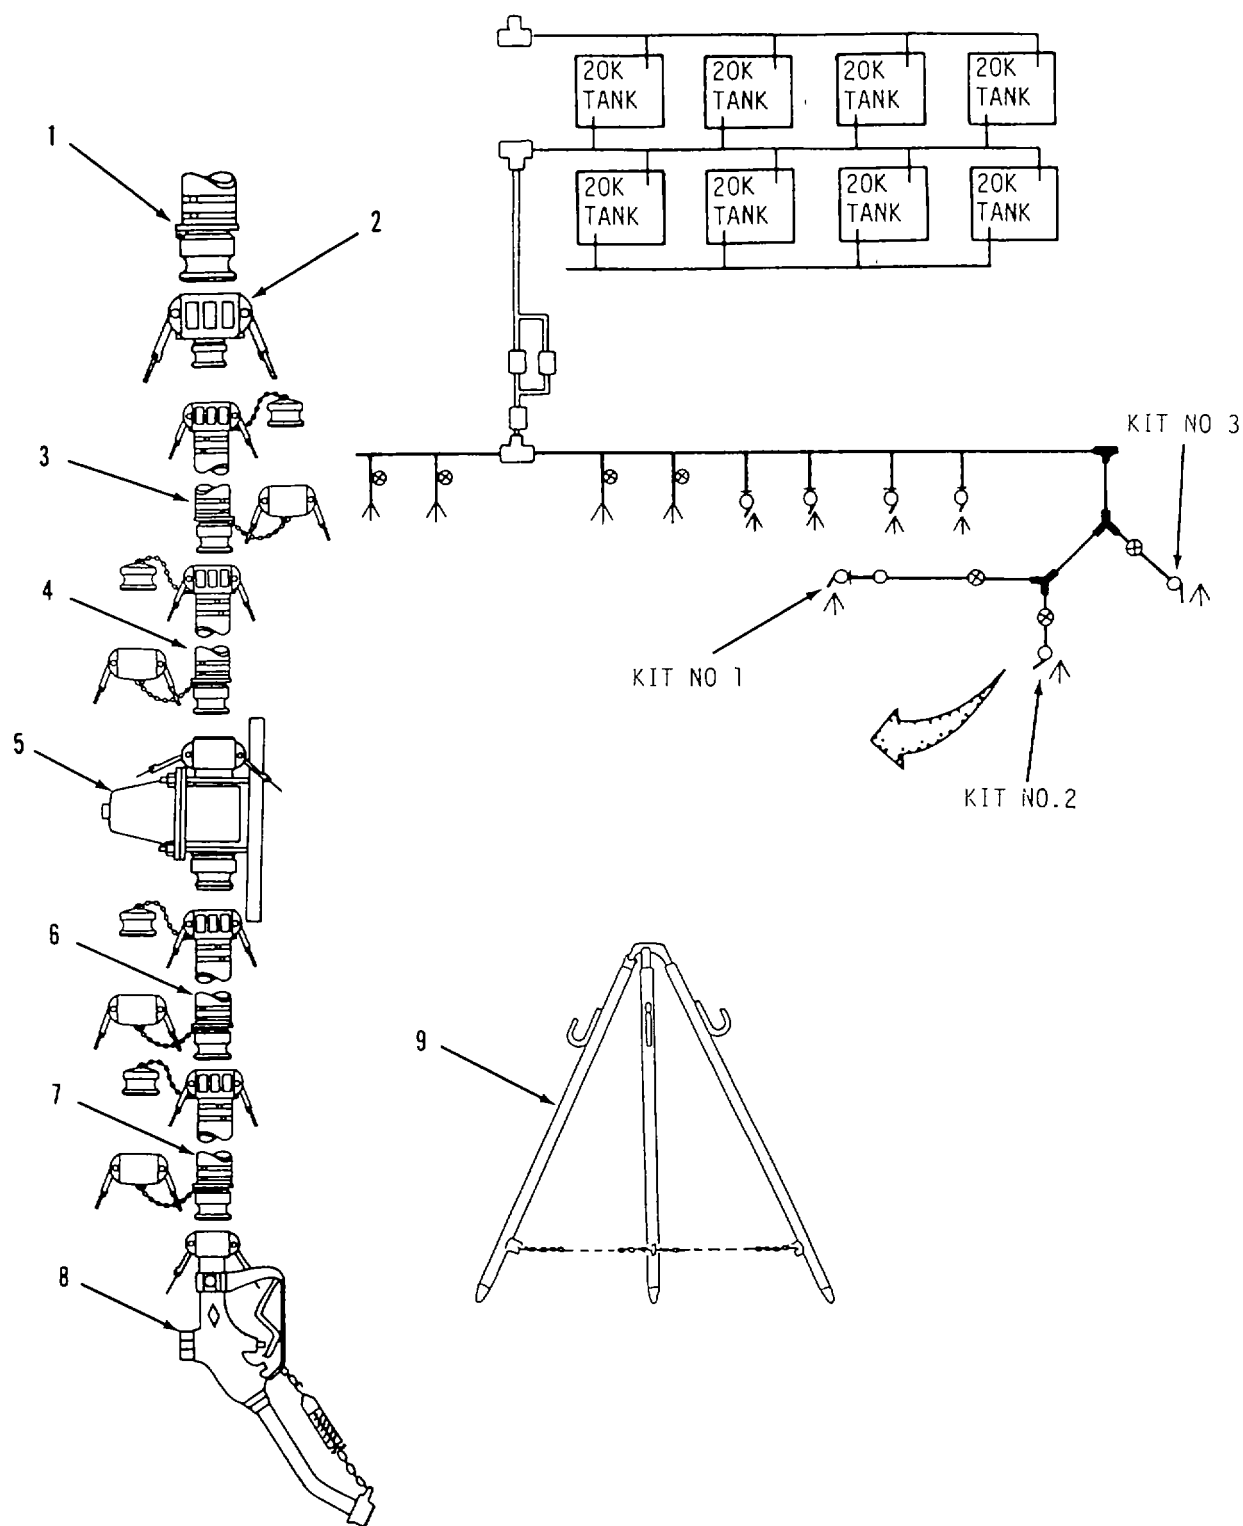

Figure 2-26. Hose and Nozzle Kit Disassembly.
- b. Disassemble Hose and Nozzle Kits. Refer to figure 2-26.